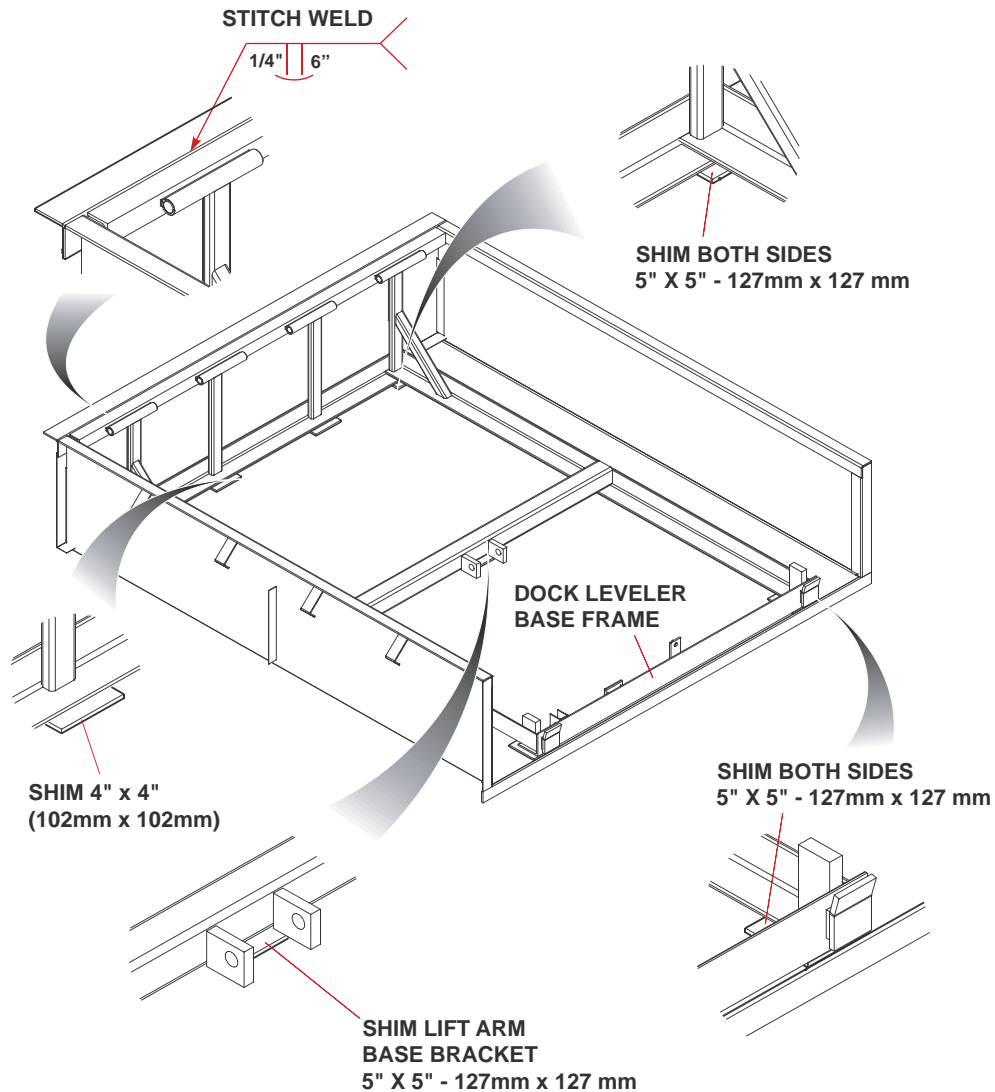

Figure 1 : Dock Leveler Installation Pictorial
6. If rear beam does not line up squarely with rear curb angle, use 3" x 6" (75mm x 150mm) shims of suitable thickness to fully support top rear and bottom rear of rear beam at weld areas. Weld rear beam to curb steel with 1/4" x 6" (6mm x 150mm) welds, on 9-5/8" (250mm) centers. See Figure 1, Page 2.
It is important that these shims fill space between bottom edge of back beam and face of curb angle as well as top edge, behind each hinge lug. Assure the top of the back beam is flush with the top surface of rear curb angle and finish weld back beam to curb angle as detailed in Figure 1, Page 2.
19. Tack-weld the welded rear shims to the rear Dock Leveler frame. Finish weld all shims, Refer to Figure 1 : Dock Leveler Installation Pictorial.